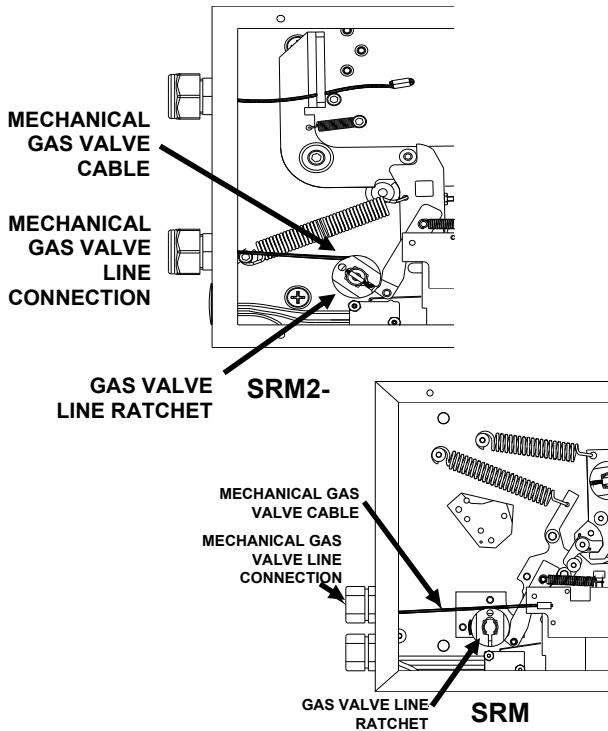

Figure 4-65.
1. After installing the gas valve cable as described previously, feed cable into the Systems Releasing Module through the left-side knockout as shown. See **Figure 4-65**.